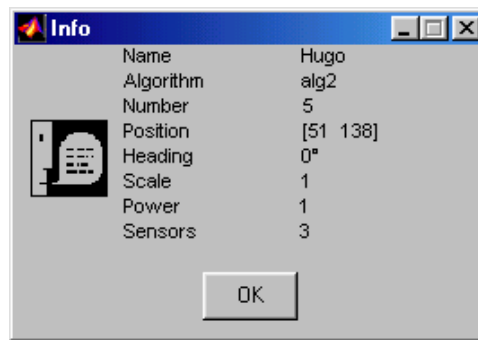

Figure 8: Information window
- *Info* - Displays information window (see *Fig. 8*).
- Info - Displays some information (see Fig. 8).